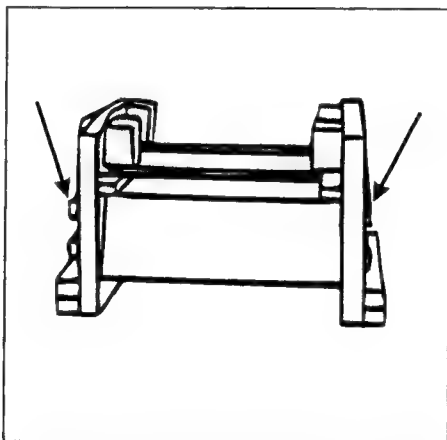

Figure 2-26. Remove Sound Shroud. Step d
- d. Grasp the foam end caps and lift to remove the shroud and wire form assembly from the box. Place it on a flat surface to disassemble (see Figure 2-26).